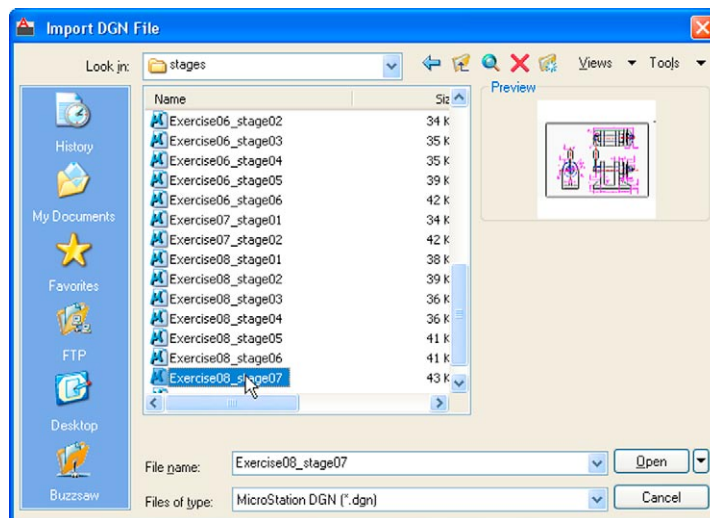
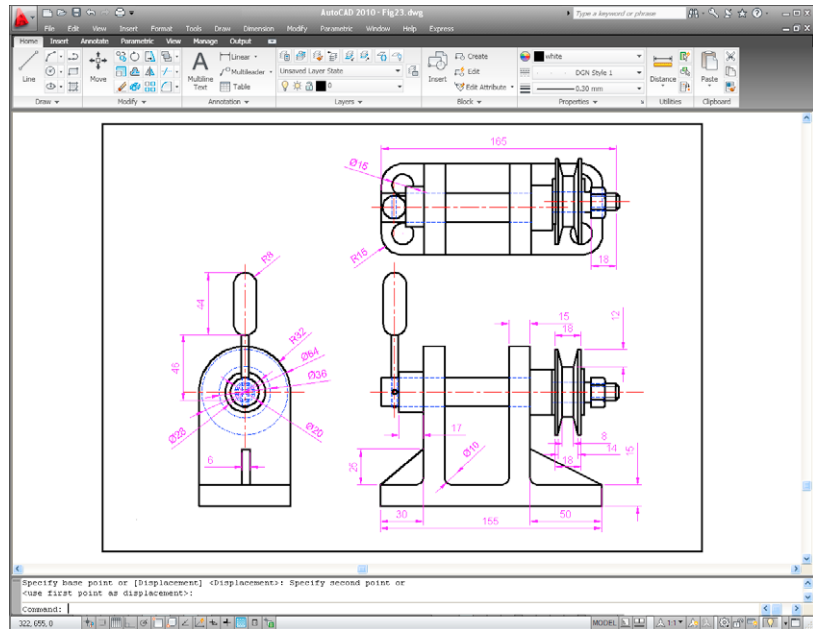

Fig. 10.21 The Import DGN File dialog
Fig. 10.22 The \*.dgn file imported into AutoCAD 2011
2. In AutoCAD 2011 at the command line *enter* **dgnimport**. The dialog Fig. 10.21 appears on screen from which the required drawing file name can be selected. When the **Open** button of the dialog is *clicked* a warning window appears informing the operator of steps to take in order to load the drawing. When completed the drawing loads Fig. 10.22).